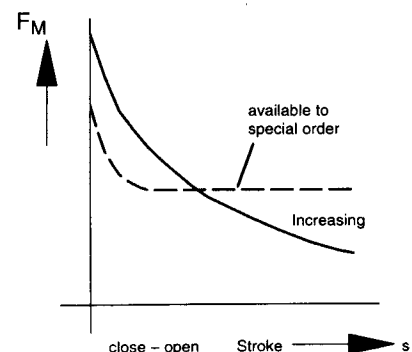

Fig. 2
- Increasing force characteristic (fig. 2)